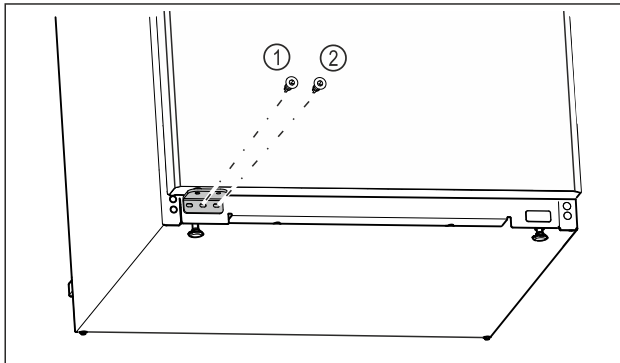

Fig. 22
- ▶ Tighten the middle screw of the swap bearing block Fig. 22 (1) with a Torx 20 screwdriver.
- ▶ Tighten the inner screw of the swap bearing block Fig. 22 (2) with a Torx 20 screwdriver.